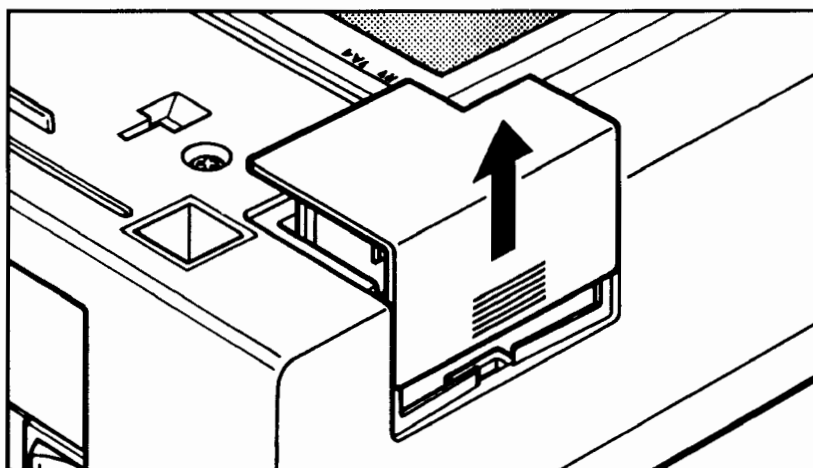

Figure 17. Removing the Lamp Cover
8. Locate the lamp cover and remove it by gently sliding it up. See figure 17.